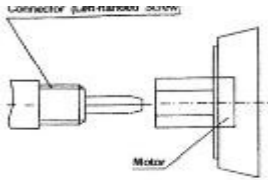

fig.3
7. Let them be at a suitable place when the motor is connected to the vibrating head. Screw the connector of the vibrating head on the motor (as fig.3).